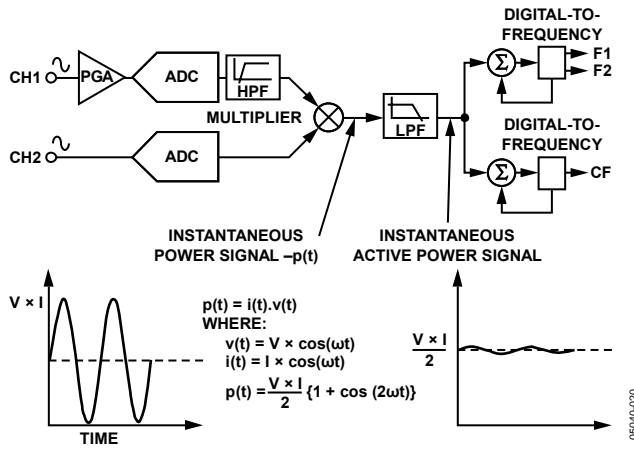

Figure 22. Signal Processing Block Diagram
The active power calculation is derived from the instantaneous power signal. The instantaneous power signal is generated by a direct multiplication of the current and voltage signals. To extract the active power component (dc component), the instantaneous power signal is low-pass filtered. Figure 22 illustrates the instantaneous active power signal and shows how the active power information can be extracted by low-pass filtering the instantaneous power signal. This scheme correctly calculates active power for nonsinusoidal current and voltage waveforms at all power factors. All signal processing is carried out in the digital domain for superior stability over temperature and time.
The pulse output calibration frequency (CF) is intended for use during calibration. The output pulse rate on CF can be up to 2048 times the pulse rate on F1 and F2. The lower the F1-4 frequency selected, the higher the CF scaling. Table 7 shows how the two frequencies are related, depending on the states of the logic inputs S0, S1, and SCF. Because of its relatively high pulse rate, the frequency at this logic output is proportional to the instantaneous active power. As with F1 and F2, the frequency is derived from the output of the low-pass filter after multiplication. However, because the output frequency is high, this active power information is accumulated over a much shorter time. Therefore, less averaging is carried out in the digital-to-frequency conversion. With much less averaging of the active power signal, the CF output is much more responsive to power fluctuations (see Figure 22).